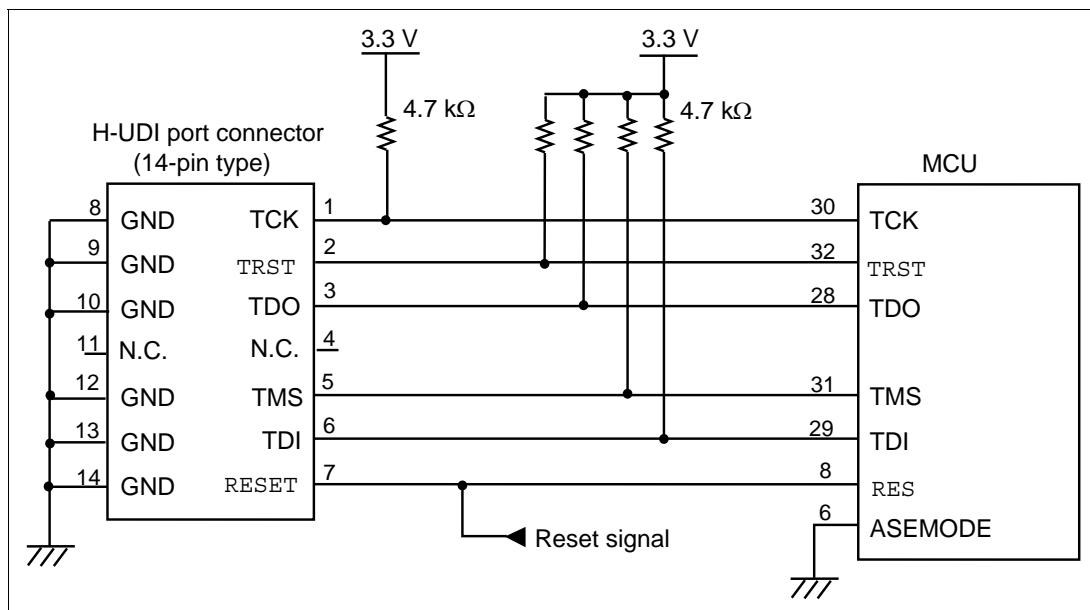

Figure 4.1 Recommended Circuit for Connection between the H-UDI Port Connector and the MCU
Figure 4.1 shows a recommended circuit between the H-UDI port connector and the MCU.
- (1) When the emulator is used: /ASEMODE = low (ASE mode)
- (2) When the emulator is not used: /ASEMODE = high (user mode)
6. The resistance values shown in figure 4.1 are recommended.